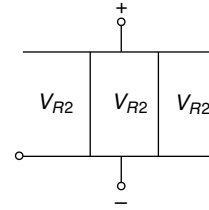

Fig. 1.29 Capacitor of Ex. 1.17
1.17 The space between two plates of a parallel plate capacitor C is filled up with three different dielectric slabs of identical size as shown in Fig. 1.29. If the dielectric constants of the three slabs be ϵ_1 , ϵ_2 , and ϵ_3 , find the new value of the capacitance. The plate cross-sectional area is A and the separation is d .